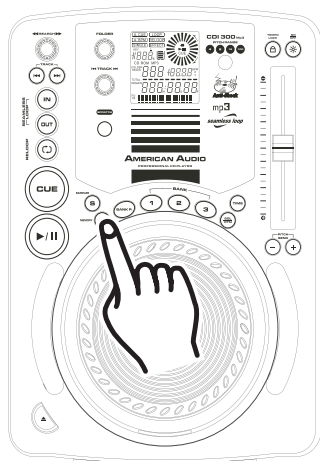

Figure 25
- 4) The red **MEMORY BUTTON (14)** LED will turn off, when your sample is locked into memory.
- 5) At this point your sample has been stored into memory. The original loop you used to create the sample will remain playing until the **OUT BUTTON (20)** is pressed (Figure 25).
- 6) Your sample can now be recalled at any time even when the unit is in **PAUSE MODE**. To recall the sample be sure the sample function is on, by pressing the **SAMPLE BUTTON (16)** until the red sample button LED turns on. To play your sample in a continuous loop leave the sample function on. To play your sample just once, turn the sample function off immediately after initiating your sample. With the sample function on, the sample will continue to play until the sample function is turned off.